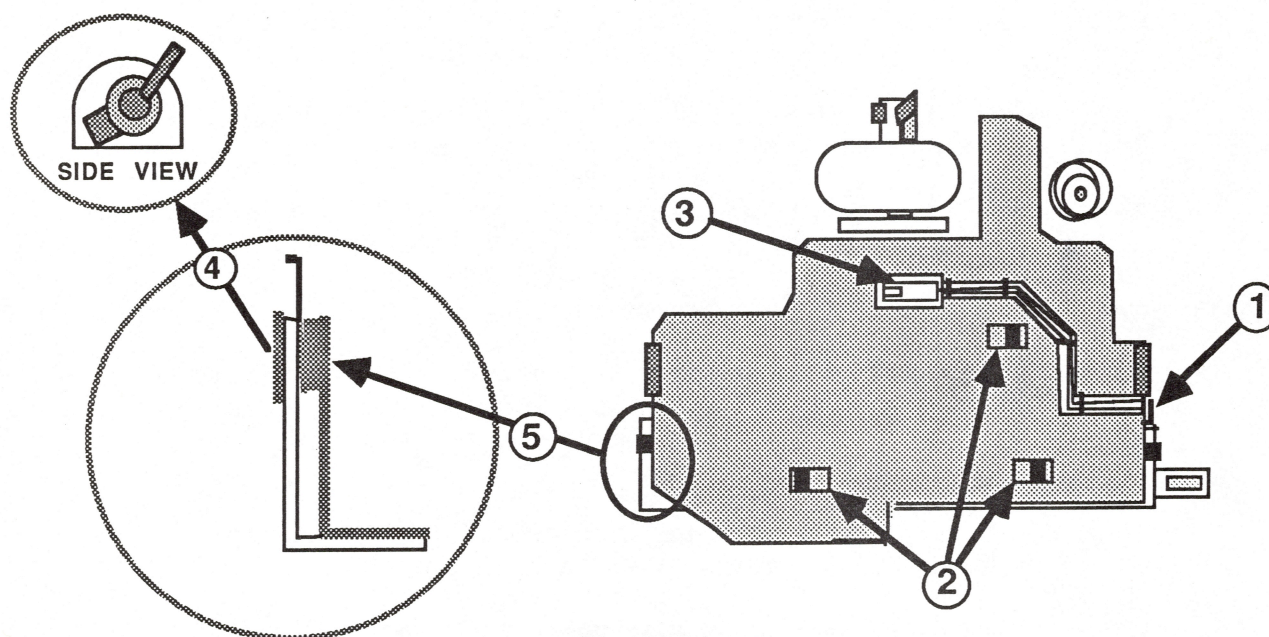

FIGURE 10
2. Gently position and push the ribbon detect switch into the top of the ribbon plate (see Figure 10, #3).
3. Reinstall the wires under the retainers and the bracket (see Figure 10, #1).
4. Position the ribbon plate so the front two tabs on the side have the ridge from the color ribbon assembly between them. Line up the tabs on the gear plate with the top of the ribbon plate (see Figure 10, #2), and push the ribbon plate down. It will click into position.
5. Replace the two small plastic pieces with the catches on them. These pieces are not interchangeable. One is made for the left and one for the right of the carrier assembly. Slide the piece for the left side (see Figure 10, #4) over the left side of the ribbon plate and carrier assembly. Rotate the piece until the black catch pops into the hole on the carrier assembly (see Figure 10, #5). Repeat this step for the other piece (on the right side).